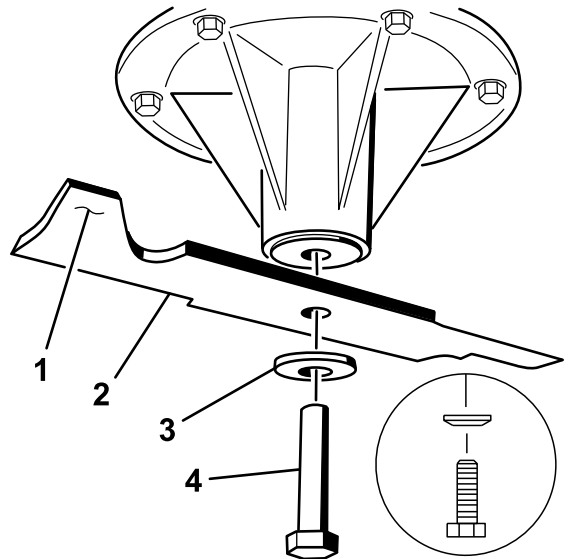

Figure 91
2. Remove the left and center blade bolt, curved washer, and blade from the spindle shaft (Figure 91).
3. If the blade is not balanced, file some metal off the end of the sail area only (Figure 91).